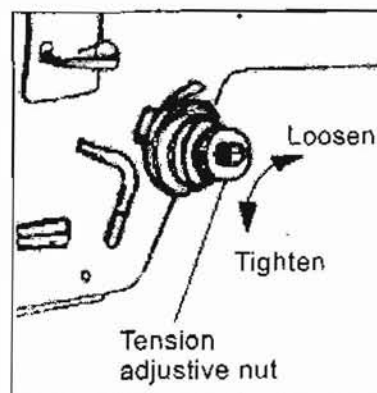

Fig.11
21、 The thread tension adjustment (Fig.11,12,14)